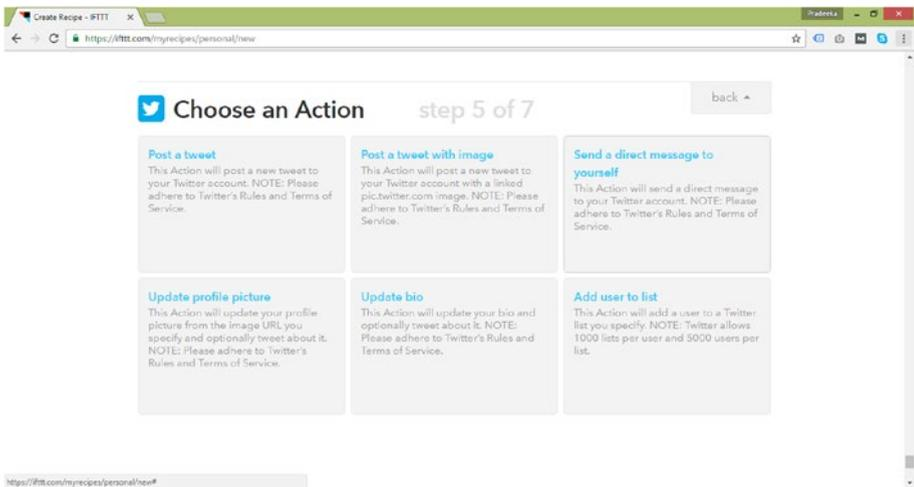

Figure 8-20. The choose an action section
13. Click the **Post a Tweet** section, as shown in Figure 8-20.